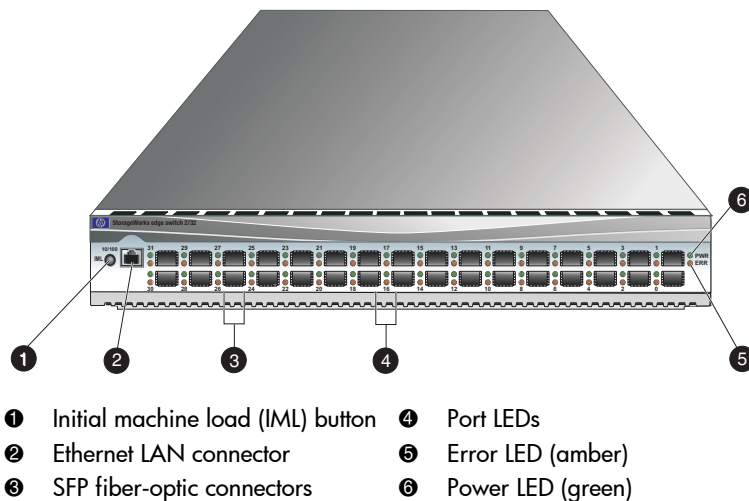

Figure 1: Edge Switch 2/32 (front view)
Figure 1 shows the front of the Edge Switch 2/32 and identifies the front panel components.
When the IML button (Figure 1 on page 25) is pressed and held for three seconds, the switch performs an IML that takes approximately 30 seconds and resets the following:
The front panel provides a 10/100 megabit per second (Mbps) RJ-45 twisted-pair connector (Figure 1 on page 25) that attaches to an Ethernet LAN to provide communication with the on page 25 or an SNMP management workstation. Two green LEDs are associated with the LAN connector. When illuminated, the left LED indicates LAN operation at 10 Mbps, and the right LED indicates LAN operation at 100 Mbps.
The PWR LED (Figure 1 on page 25) illuminates when the switch is connected to facility AC power and powered on. If the LED extinguishes, a facility power source, power cord, or power distribution failure is indicated.
The ERR LED (Figure 1 on page 25) illuminates when the switch detects an event requiring immediate operator attention, such as a FRU failure. The LED remains illuminated as long as an event is active. The LED extinguishes when the Clear System Error Light function is selected from the Element Manager. The LED blinks if unit beaconing is enabled. An illuminated ERR LED (indicating a failure) takes precedence over unit beaconing.
- **Port SFP**—Amber and green LEDs to the left of the port (Figure 1 on page 25) illuminate, extinguish, or blink to indicate various port states (operational with active Fibre Channel traffic, operational but not communicating, beaconing, blocked, failed, inactive, or running diagnostics).
- **Fan**—An amber LED at the lower left corner of each fan (Figure 1 on page 25) illuminates if the fan fails or rotates too slowly.